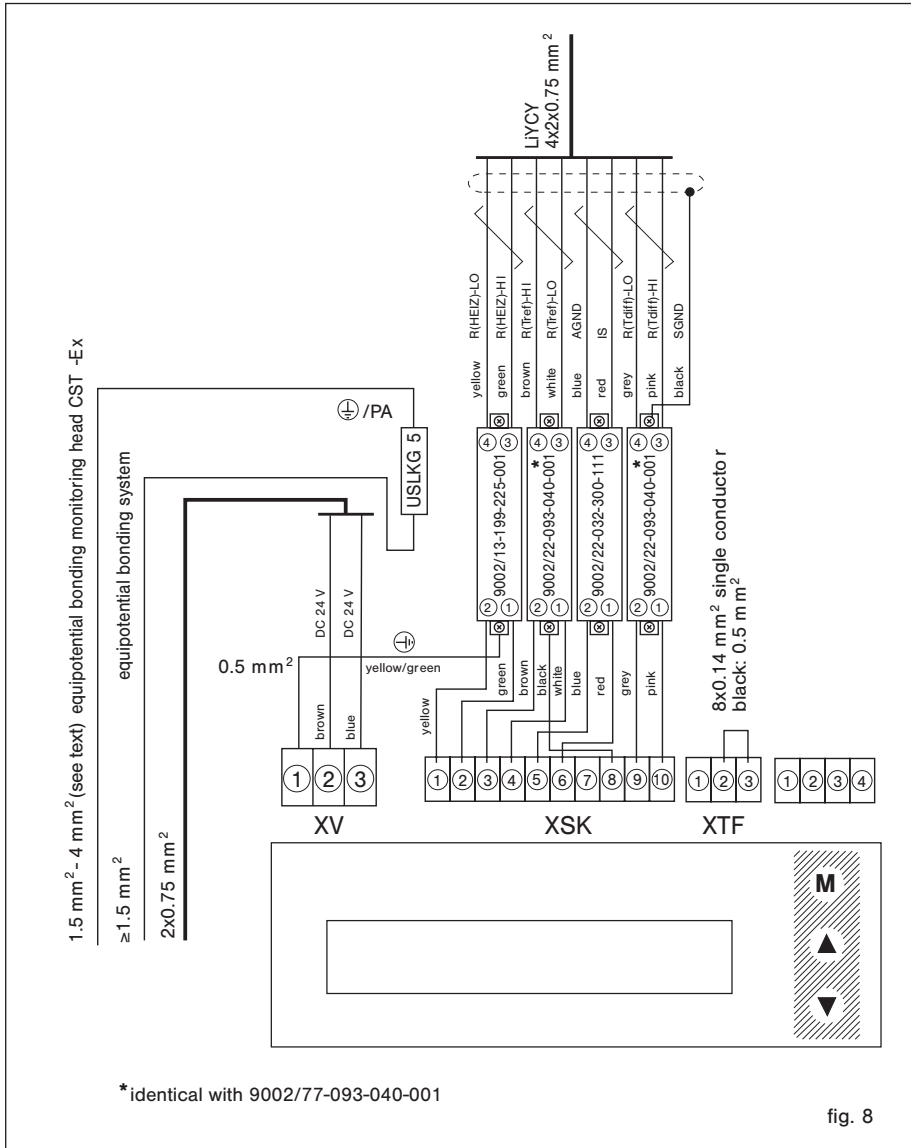
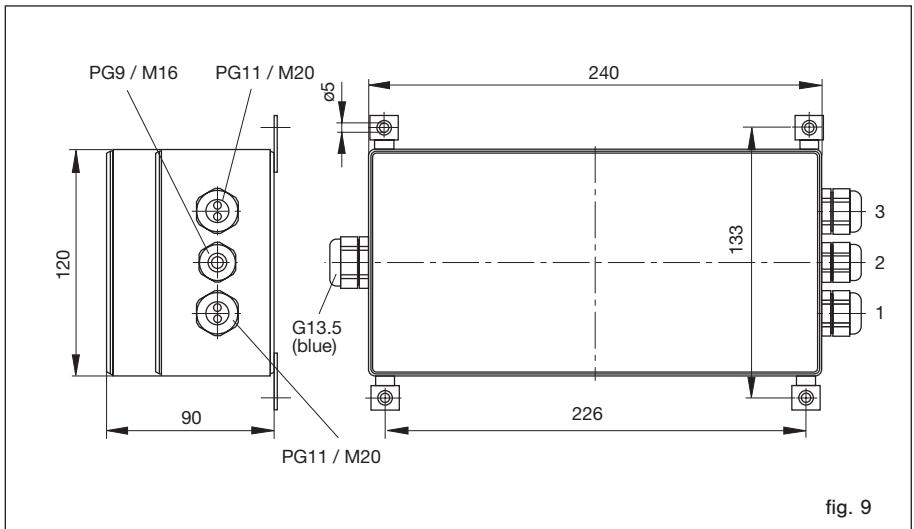

fig. 8
fig. 9
- Take the FC01-Ex equipotential bonding cables ( $\geq 1,5 \text{ mm}^2$ ) from the monitoring head through the cable gland 1 (fig. 8) and to the centre grounding system (fig. 9) and connect to terminal USLKG5.
- Take the cable of the monitoring head through the cable gland and connect to the barriers according to the connection scheme FC01-Ex (fig. 8).
- Take supply feed through cable gland 2 and further required connection cables through cable gland 3 (fig. 9) and connect to terminals XV (see connection scheme fig. 8).